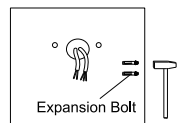

Figure 14
Step 2: Knock the expansion bolts into the wall(Figure 14);